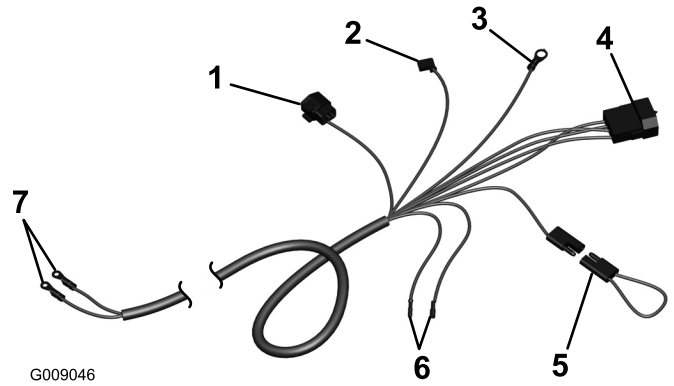

Figure 5
- B. Plug the wire harness connectors into the interlock switch (Figure 5).
- C. If the mower is equipped with the optional operator presence control, remove the loop back connector from the harness connector and plug the connector into the operator presence connector (Figure 5).
- E. If the mower is equipped with an optional hour meter, plug the connector into the hour meter (Figure 5).
- G. Route the wire harness up the right side of the handle to the on/off switch (Figure 5). Connect the white lead terminal to the bottom terminal (#3) on the toggle switch. Connect the black lead terminal to the common terminal (#2) on the toggle switch. Apply skin over grease or equivalent to the exposed switch terminals.
- H. Secure the wire harness to the handle tube using the (2) cable ties. Check all the wires for excess bending, chaffing or interference with mounting parts.